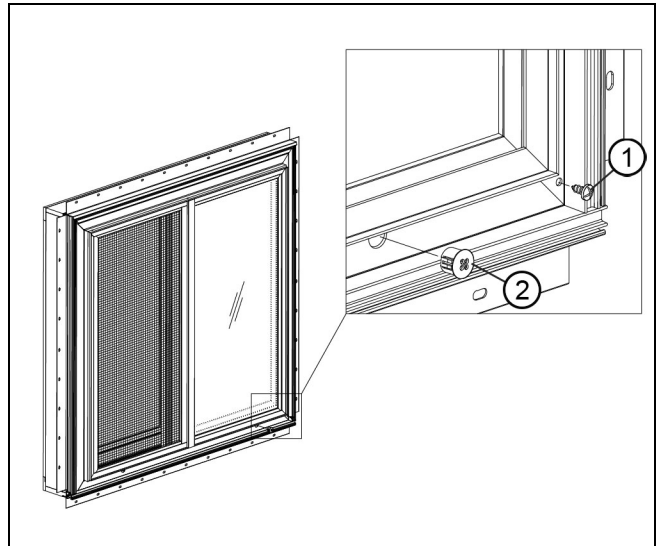

Figure 2
2. From the exterior install vent plugs by snapping into combination frame as shown in Figure 2 on the next page.
2. From the exterior install vent plugs by snapping into combination frame as shown in Figure 2.